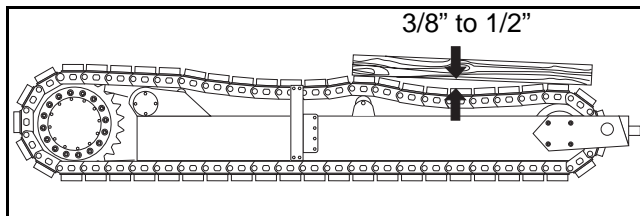

Figure 6 - 53 Proper Track Tension
- 5) A properly tensioned track should have a 3/8" to 1/2" gap between a straightedge and the track. (Figure 6 - 53)